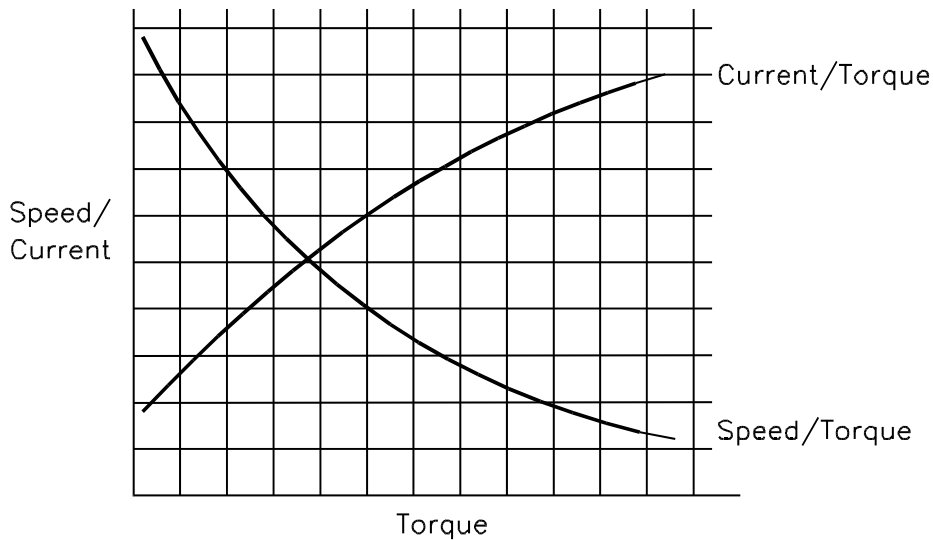

Figure 68
70. **Torque to Load Current** Figure 68 shows that as the load current is increased the torque increases.